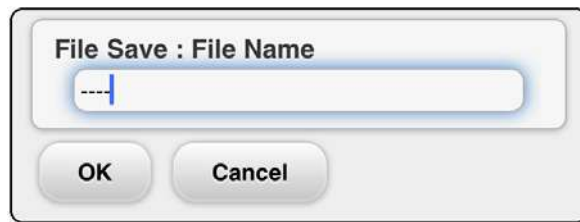

Fig. 4-125 Measured Data Saving Window
- (1) When saving the measured data, press  [save button] icon shown at the header part.
- (2) The file input window (Fig. 4-125) will then be shown. After a saving file name is input, press [OK button].